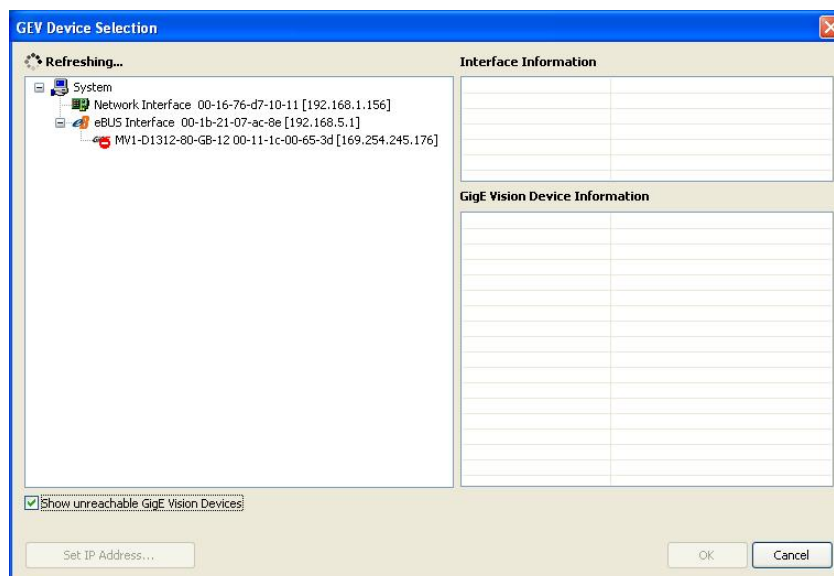

Figure 3.10: GEV Device Selection Procedure displaying the selected camera
2. Click on the Select / Connect button in the PF_GEVPlayer . A window with all detected devices appears (see Fig. 3.10). If your camera is not listed then select the box Show unreachable GigE Vision Devices.